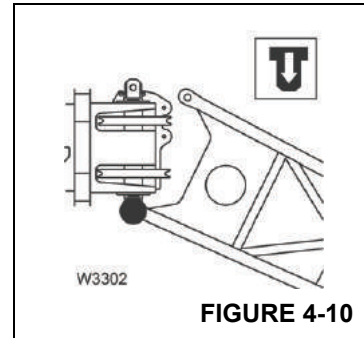

FIGURE 4-10
4. Lift the bi-fold extension in front of the main boom with the auxiliary crane and lock the 10.1 m (33 ft) section to the right of the main boom head (Figure 4-10).